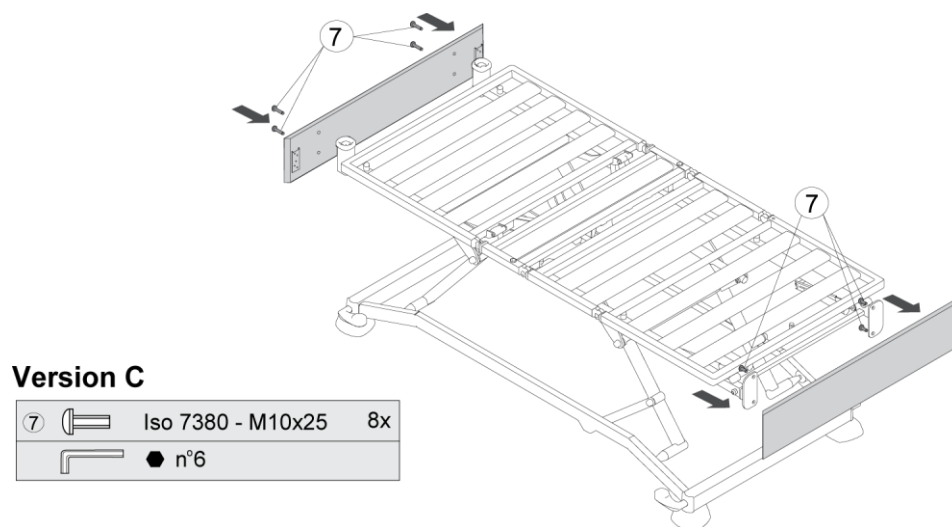

Figure 5.9: Assembly of the head and foot panel Soft-version C
- Assemble the head and foot panel by using the bolts shown in fig 5.9